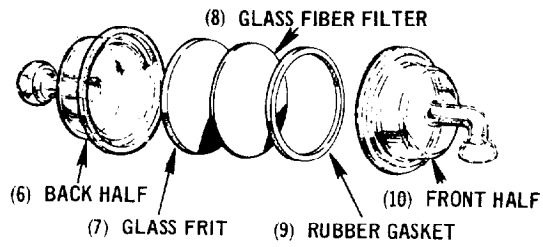

Figure 16. Glass filter holder assembly.
If the glass frit (7), shown in Figure 16, is dirty, place it in boiling, concentrated HCl for 0.5 hour. Rinse with distilled, deionized water, and then acetone; air dry. If the frit still does not appear clean, boil for 2 hours in concentrated H_2SO_4 plus a few drops of sodium or potassium nitrate. Rinse well with distilled,
deionized water, and then acetone; air dry. This procedure should also be followed with new frits. The filter-holder assembly is shown in Figure 16.